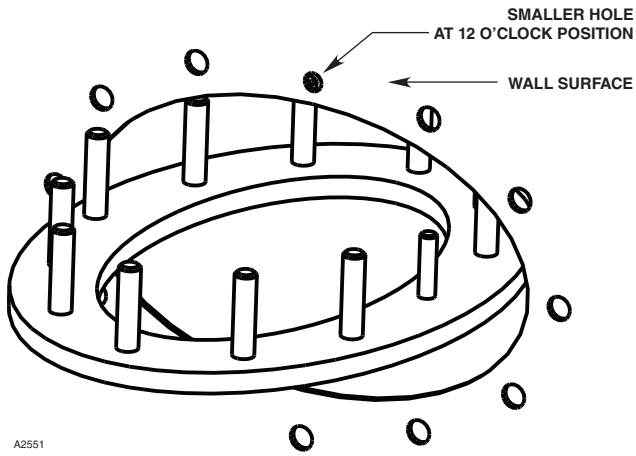
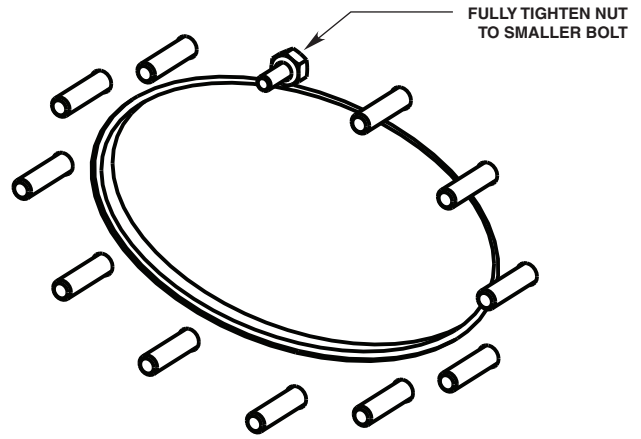

Figure 2—Mounting Plate Attaches to Back Side of Wall
Figure 3—Mounting Plate is Secured by Nut on Smaller Bolt
4. The flange mount assembly consists of two mounting plates, that are installed on opposite sides of the wall. Place the plate with the bolts through the hole as shown in Figure 2, then maneuver it into position so that the mounting bolts protrude through their respective holes in the wall as shown in Figure 3.
5. Secure the plate by placing the nut (10-32) on the smaller bolt and tightening to 18 in-lbs. See Figure 3. Install no other nuts at this time.